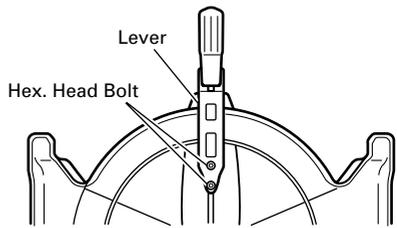
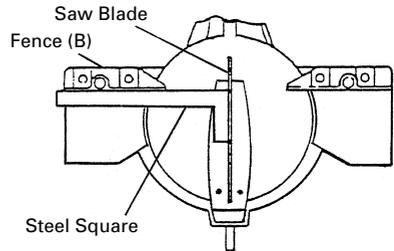

Fig. 25
Fig. 26
2. Inspecting the lever (Fig. 25 and Fig. 26)